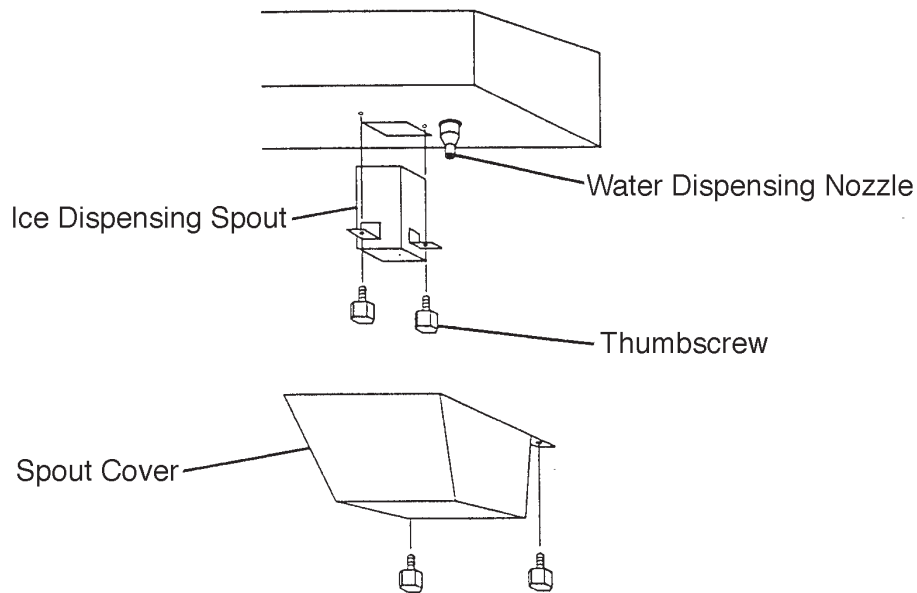

Fig. 10
- 8) Remove the thumbscrews, spout cover, ice dispensing spout, and water dispensing nozzle. See Fig. 10.